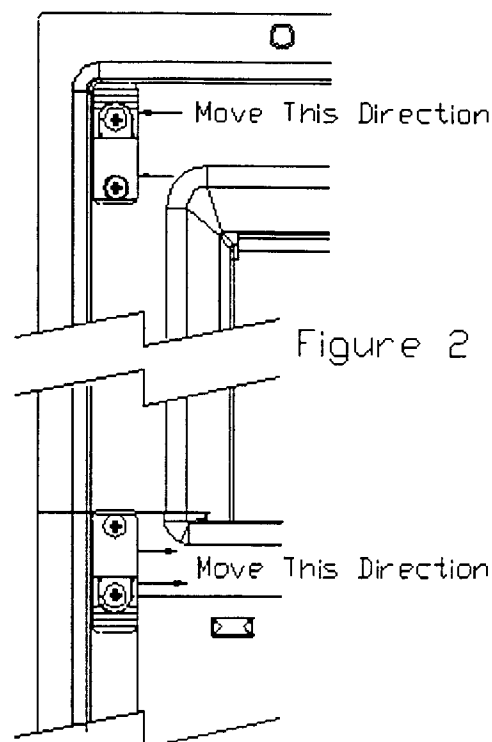

Figure 2
- c) Push upper door hinge toward outside trim as far as possible and tighten(see figure 2).
- d) Push lower hinge inward toward strike plate and tighten (see figure 2).